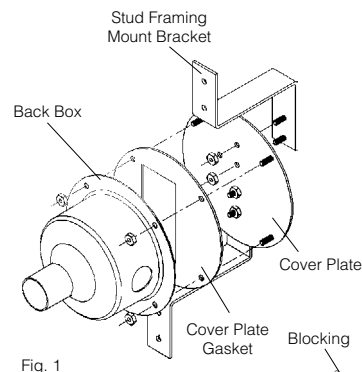

Fig. 1
- Back housing provided with (2) 7/8" holes (horizontal entry) for 1/2" trade size conduit.
- Suitable for through wiring: max. of (4) No. 12 AWG conductors rated for 90°C.
- Install the (2) stud framing mounting brackets provided as shown in Fig.1.